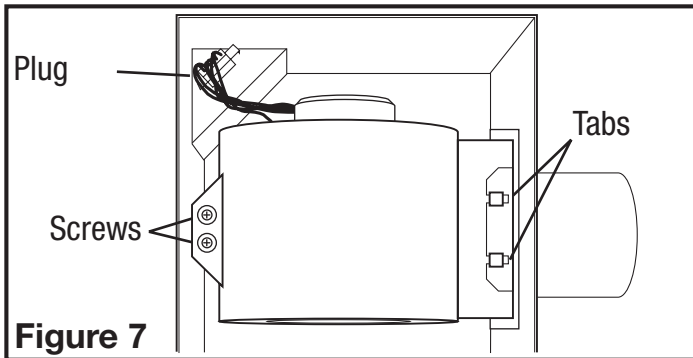
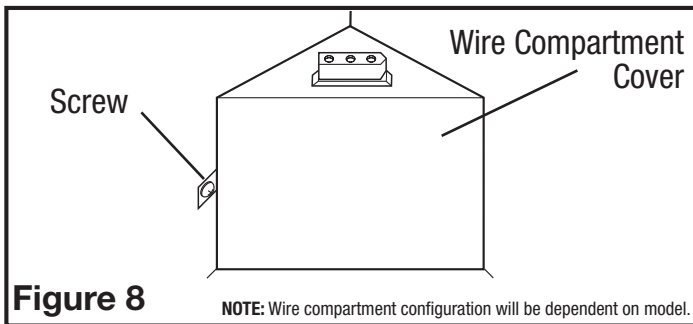

Figure 7
Figure 8
- 1b. **Internal Wire Compartment:** If the motor is already installed in the housing, remove the two screws holding the blower assembly in place. Lift up on the assembly and slide it out of the tabs on the housing (Figure 7). Remove the wire compartment cover screw and place the cover in a secure place (Figure 8).